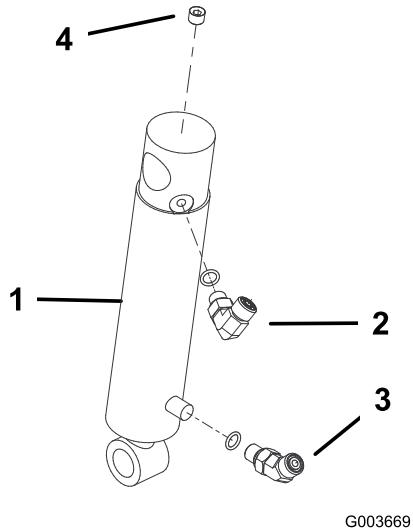

Figure 11
1. Thread a 90 degree fitting into the upper port in the hydraulic cylinder. Position the fitting as shown in Figure 11. Note: Make sure all O-rings are lubricated and properly positioned on fittings before installation.
2. Thread a 45 degree fitting into the lower port in the hydraulic cylinder. Position the fitting as shown in Figure 11.